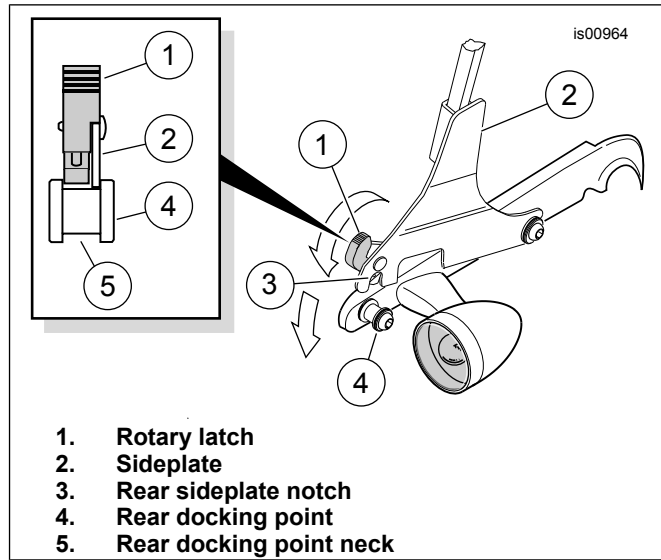

Figure 4. Pull Back Latches, Lower Sideplate onto Rear Docking Points
2. See Figure 4. Rotate the latches (1) on both sideplates (2) so the latch openings and the rear sideplate notches (3) are aligned. Position the latches over the rear docking points (4), making certain the latches and sideplates fit into the neck (5) of the docking points as shown in the Figure 4 inset. This may require some gentle squeezing or spreading of the sideplates.